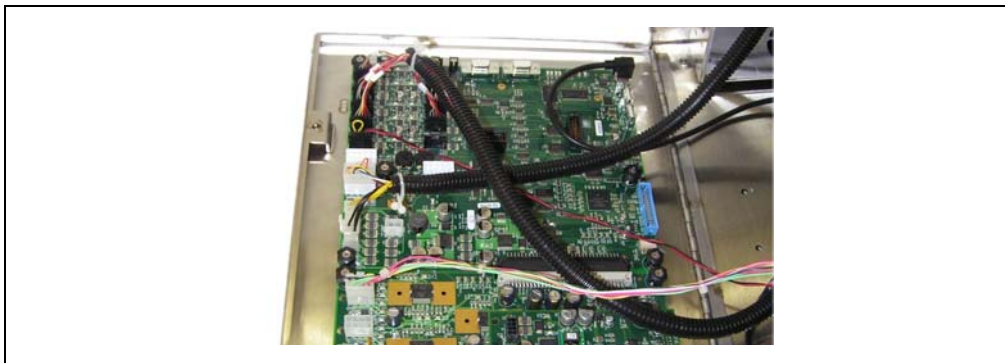

Figure 10-9. SP Horizontal Enclosure: Service Door Open
6. Loosen the thumbscrews on the service door of the SP and lower the door. The SP electronics board is mounted on the inside of the door (see Figure 10-9).